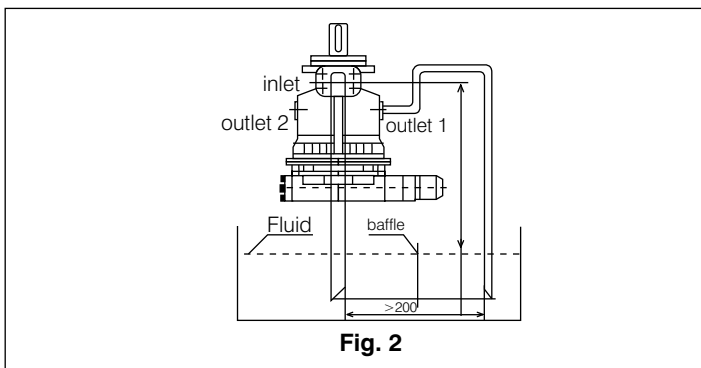

Fig. 2
Before installation fill pump housing, keeping it in a horizontal position. For mounting above reservoir see Fig. 2.
- In figure 2, the co-axial tolerance of error $< \varnothing 0.05$